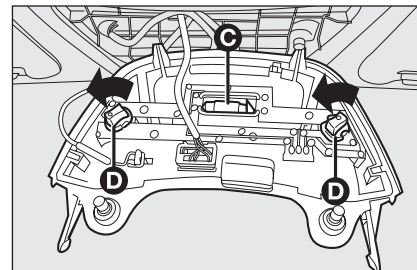

fig. 35
- ❑ replace the central bulb **C**-fig. 35 releasing it from the side contacts making sure that the new bulb is correctly clamped between the contacts; replace side bulbs **D**-fig. 35 turning both bulb holders counter-clockwise then, remove the snap-fitted bulbs.